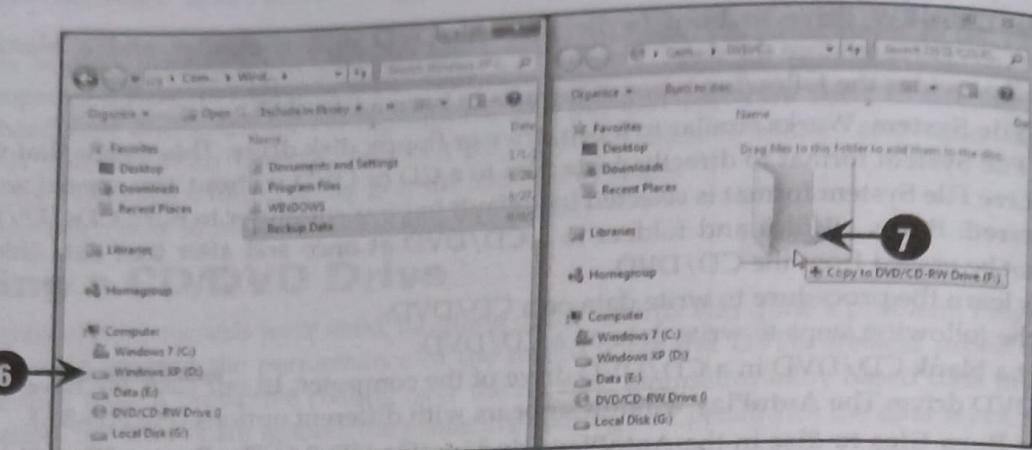

Fig.HD-8.9
6. Select the file or folder that you want to burn. In our case, we have selected the **Backup Data** folder from the **Windows XP (D:)** drive (Fig.HD-8.9).
7. Drag the **Backup Data** folder from the **Windows XP (D:)** drive and drop it in the **DVD/CD-RW Drive (F:)** window, as shown in Fig.HD-8.9: